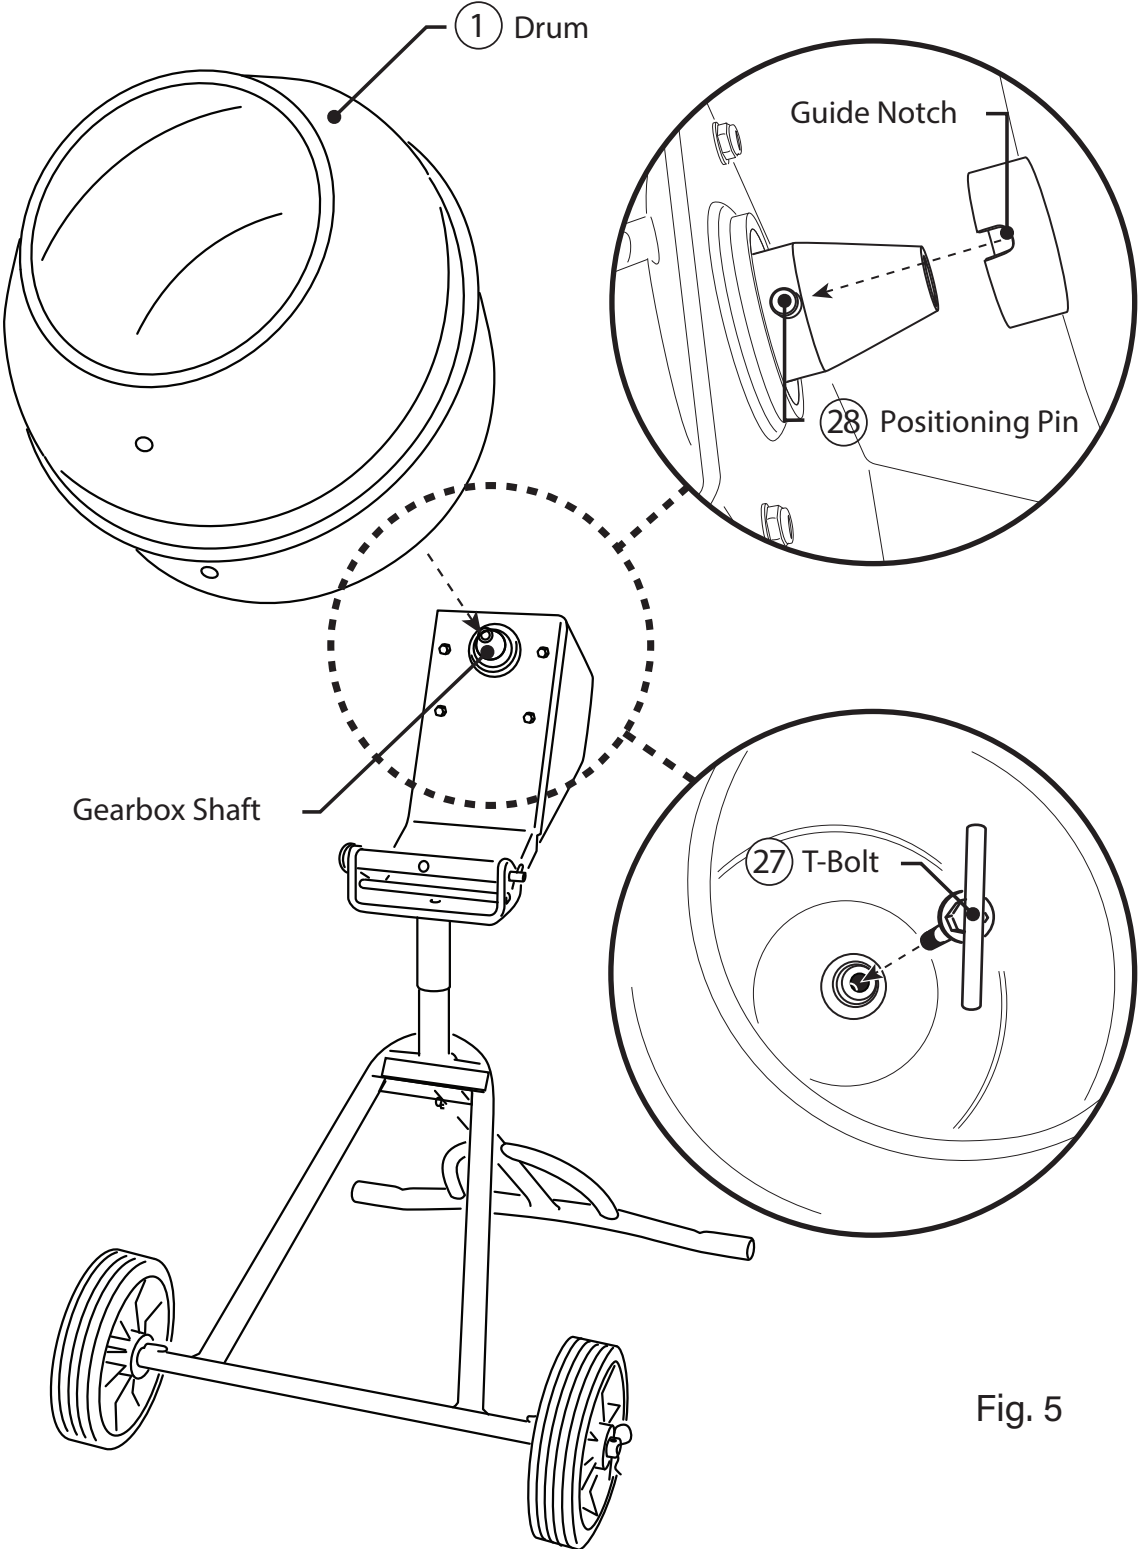

Fig. 5
5. To mount the Drum (1), align the Guide Notch at the bottom of the mixing Drum (1) to the Positioning Pin (28) on the gear box shaft. (Fig. 5)